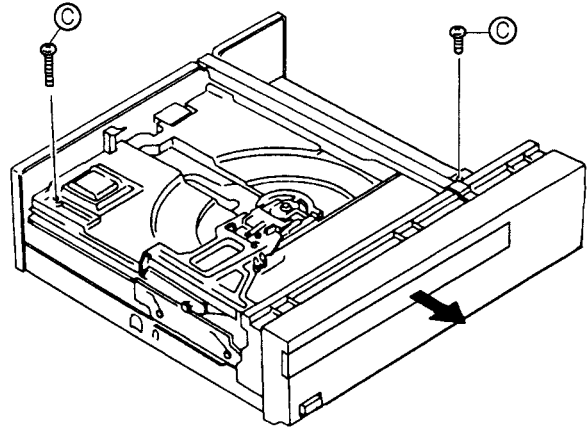

Fig. 7-2
7.2 REMOVING THE TRAY (Fig. 7-2, 3)
- ① Remove two stopper screws (C) shown in Fig. 7-2. When the power can be turned ON, press the OPEN (▲) button then pull the tray out from the player.